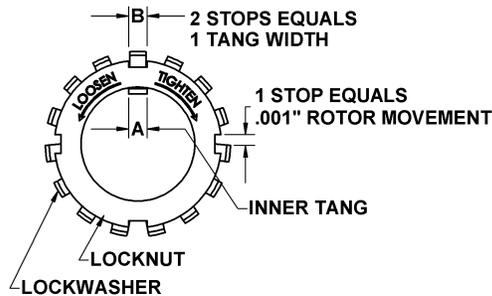

Figure 8– Locknut Assembly
14. Insert the shaft into the cylinder (12). Carefully slide the shaft through the installed mechanical seal (153) and bearing. Align the notch in the rotor with the drive tang on the seal jacket of the mechanical seal. Rotate the shaft to ensure the drive tangs of the mechanical seal are engaged in the notches in the rotor.
15. Install lockwasher (24B) on the shaft protruding through the bearing in the cylinder with the tangs outward. Ensure the inner tang "A" of the lockwasher is engaged in the slot in shaft threads. Bend it slightly, if necessary. (See Figure 8.)
31. Install and finger tighten the head capscrews (21). The head capscrews will be fully tightened after the second locknut is installed.
32. Install lockwasher (24B) on the shaft protruding through the bearing in the head with the tangs outward. Ensure the inner tang "A" of the lockwasher is engaged in the slot in shaft threads. Bend it slightly, if necessary. (See Figure 8.)
It is important that the bearing locknuts (24A) and lockwashers (24B) be installed and adjusted properly. Overtightening locknuts can cause bearing failure or a broken lockwasher tang. Loose locknuts will allow the rotor to shift against the discs (71), causing wear. See Figure 8.